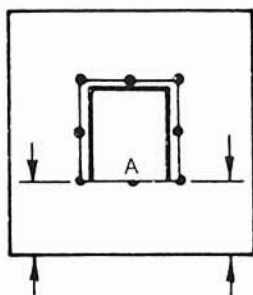

Figure 31 Finish one side
- 4 File side A (Fig. 31) to size and, if necessary, parallel to an edge of the workpiece. Test for parallelism and location using calipers.